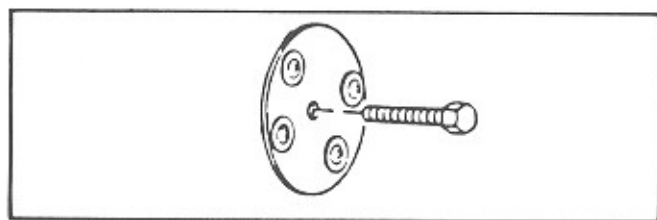

Figure 2-1. Shipping Bolt Removal
1. Remove the Record Changer Mechanism shipping bolt from the back of the R-90 cabinet (See Figure 2-1.).